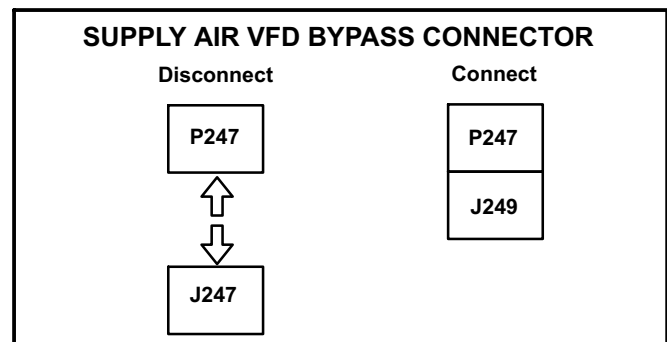

FIGURE 32
- 3- Disconnect P247 from J247 and connect J249 to P247. See figure 32.